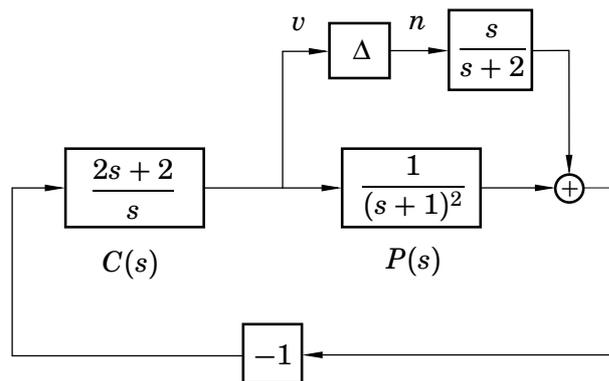

Figure 3.2 System for Problem 3.2.
- 3.2 Consider the system in Figure 3.2.